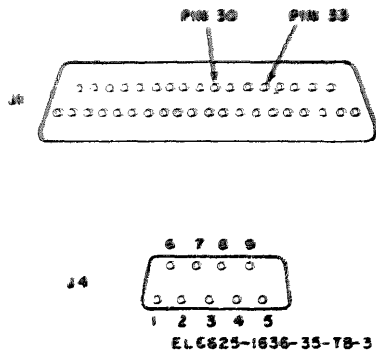

Figure 3. Test instrument connectors J1 and J4
(1) Position the test instrument controls as follows:
(2) Connect electronic voltmeter (A1) to connector J1, pin 33 (fig. 3) and chassis ground using test lead set (B4).
(1) Set test instrument (or Discriminator Panel) in an upright position.
(2) Connect meter test set (A3) to the appropriate pin (fig. 3) of connector J4 (common to ground) as shown in table 3.
(3) Turn the test instrument **CIRCUIT SELECTOR** switch to the positions as shown in table 3.
(4) Adjust the meter test set for a full-scale indication to the left on the test instrument meter.